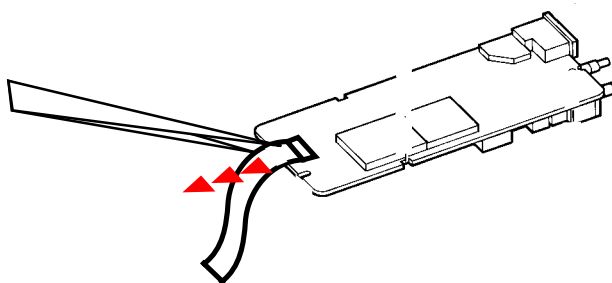

Figure 1-7. Separate Flexible Circuit Tail
6. Separate the flexible circuit tail by undoing the ZIF connector latch (Figure 1-7).